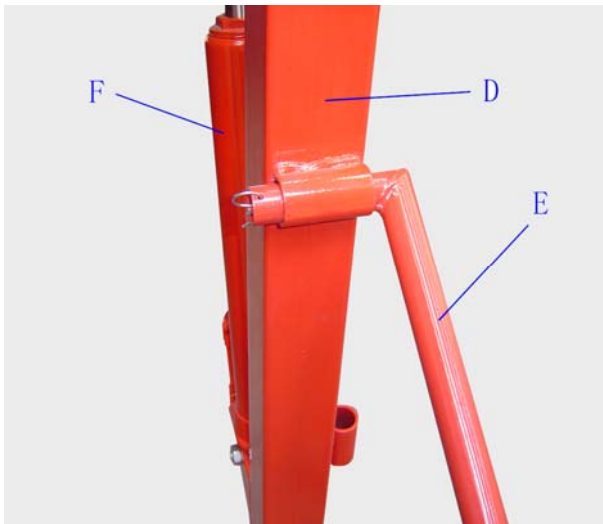

Fig. 8
Attach the Handle (E) to the Main Post, securing it with the Hitch Pin (17) (Fig. 8).